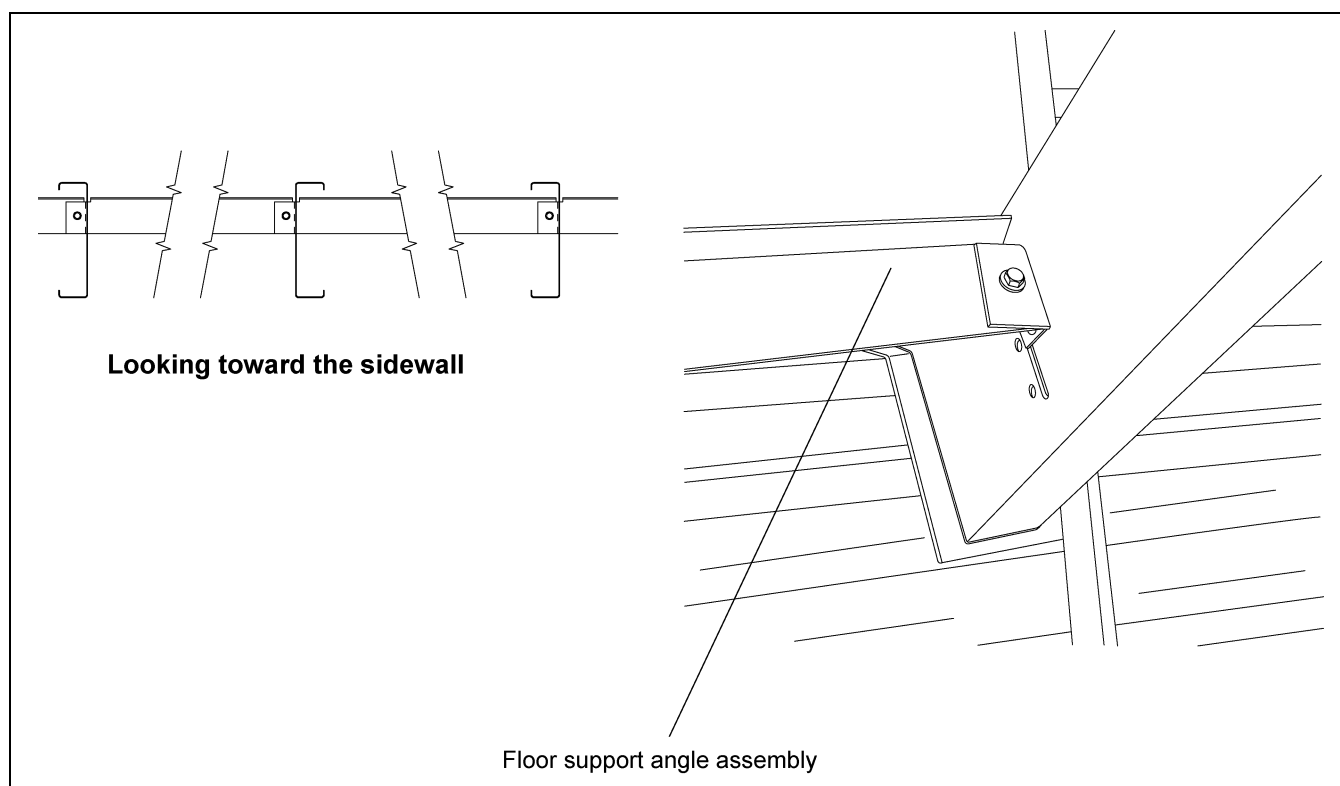

Figure 8A
When installing the rafters, set the lower clip end on the “C” eave member. Leave the bolts to the center collar and the eave member loose until all rafters are in place. Use 3/8" x 1" hex bolts and nuts to connect the center collar and eave member to three (3) rafters at 90° to each other. Two (2) of the first three (3) rafters should all face the same direction and be from bundle of eleven (11) rafters. Every other rafter should alternate direction. **IMPORTANT:** *There are left and right rafters. Be sure to alternate left, right, left, right, etc.* The floor sheet support purlins can now be installed using 5/16" x 3/4" bin bolts. There are three (3) different lengths of purlins to fit between the rafters. Insert the straight tab of the purlin through the upper slot in the left hand rafter when looking toward the bottom of the rafters. Bolt the bent end of the purlin to the right hand rafter in the upper two (2) holes. After inserting the next purlin tab, bolt the first purlin tab to the second purlin. Continue around the bin alternating lengths as the rafter facings did. Tighten all bolts. (See Figure 8A.)